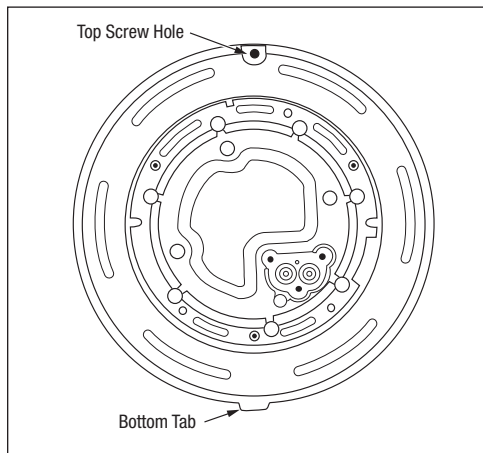

Figure 5. SLX Flush Mount - Rear of Light Engine
2. On the face plate, identify and position the screw hole at the top and the protruding tab at the bottom. See *Figure 5*.